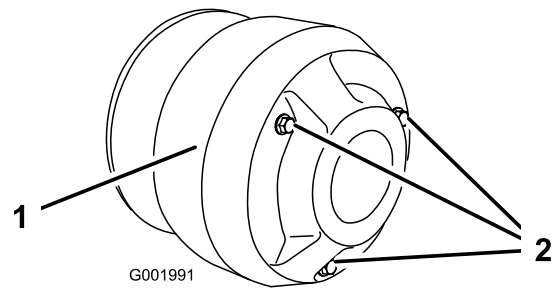

Figure 54
4. Remove the 3 bolts securing the cover to the clutch and remove the cover (Figure 54).